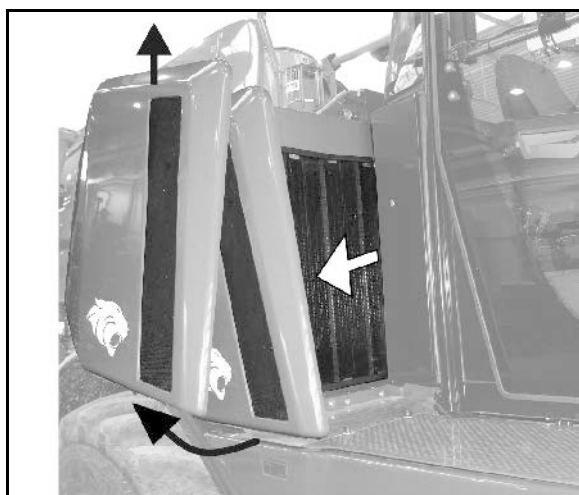

Fig. 167
1. Undo the wing nut of the filter hood (Fig. 167/1).
2. Remove the filter hood and pull out the outer filter element (Fig. 167/2).
6. annually, renew the inner filter element (Fig. 167/3) (never clean it).
- o Loosen the hex. nut (Fig. 167/4) and pull out the inner filter element.